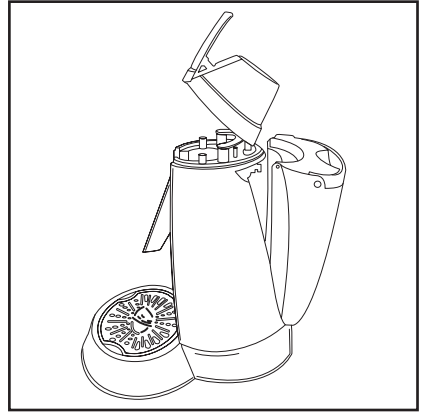

FIGURE 4
2. Fill the Water Tank with fresh water up to the 'Max' line, and fit back into the Base (down and in) until it "snaps" into place, see Figure 4.